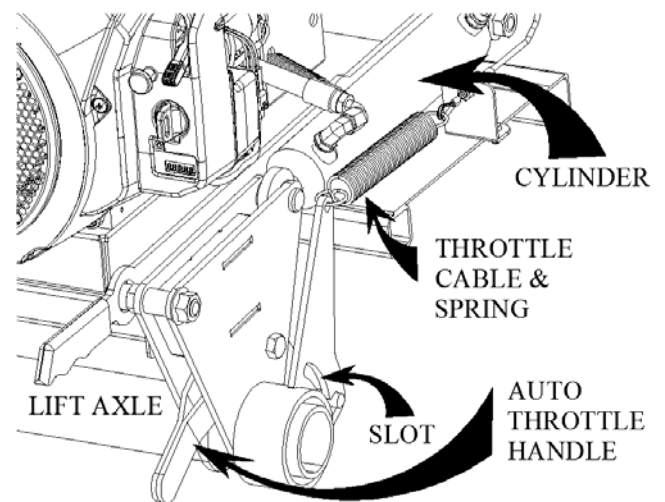

Figure 8. Automatic Throttle Mechanism
The engine throttle is tied to a cable-spring assembly which is pulled when the lift cylinder is extended, Figure 8. When the machine is lowered, the cylinder extends; this action pivots the bracket hooked to the spring and cable assembly. As the cable is pulled, the engine speed is increased. Likewise, when the machine is lifted, the cable is retracted by a spring on the engine.
The UA-60T is designed to start aeration when the electric clutch is turned on. With the Auto Throttle Handle, Figure 8, position down, the engine will automatically throttle up as it lowers to the ground. Once the tines start to touch the ground, the electric clutch may be engaged to start the patented vibrating tines. To lower the machine without throttling up the engine, simply lift the pivot catch handle, Figure 8, and allow the stud to travel in the slot while the machine lowers to the ground.
2. Lift the Auto Throttle Handle to disengage the throttle, Figure 8, and use the control box to lower the machine to the ground.
1. Before starting the engine, if the machine is in the lowered position. **The Auto Throttle Handle, Figure 8, must be lifted to disengage the throttle.**
1. Engine must be level for checking oil. After starting the engine, disengage the throttle from the pivoting axle by lifting the Auto Throttle Handle (Figure 8) while lowering the machine to the ground.